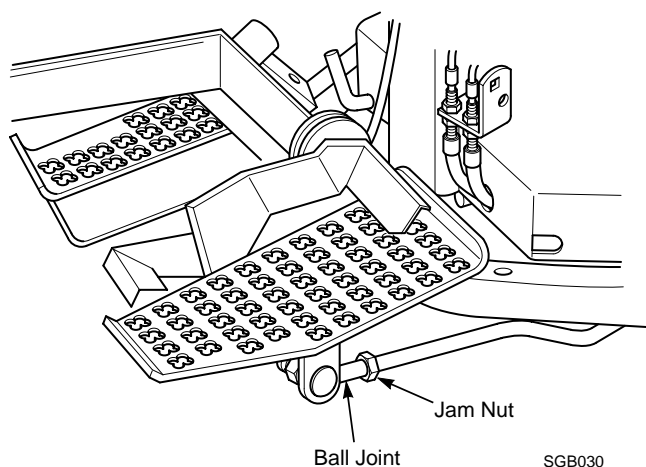

Figure 6. Foot Control Pedal Adjustment
5. Check the adjustment of the right foot control pedal for full forward speed. The pedal should rest on the foot plate when the pump is stroked in the full forward position. To make an adjustment, disconnect the ball joint from the pedal arm and loosen the jam nut (See Figure 6). Place the foot control pedal forward against the foot rest and adjust the ball joint on the rod until the stud aligns with the hole in the arm. Bolt the ball joint to the arm and tighten the jam nut.